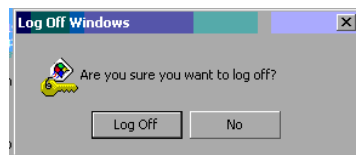

Figure 1-252. Confirm Log Off
12. A “Log Off Windows” confirmation window is displayed (Figure 1-252).